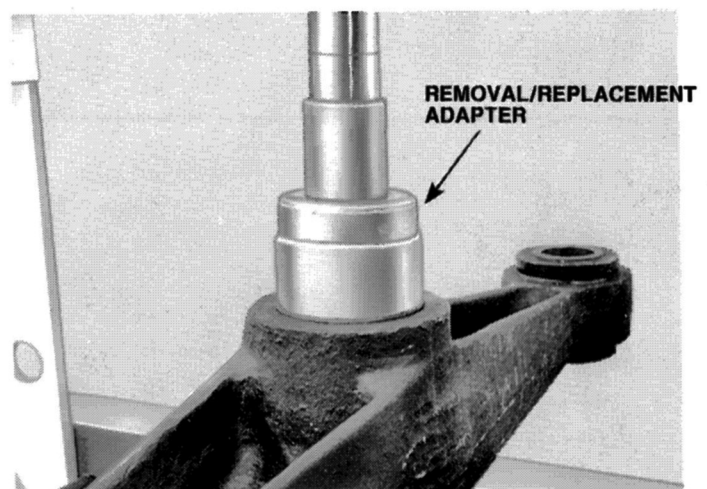

FIGURE 1
2. Position the equalizing beam in the shop press and align the Center Bushing Removal/Replacement Adapter (Item No. 3) as shown in Figure 1.